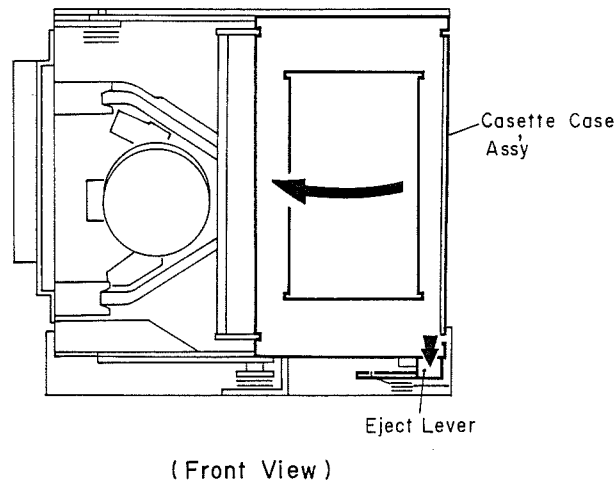

Fig. 6.15 Push of Eject Lever
5. Press the Eject Lever of the Transport Mechanism Ass'y to open the Cassette Case Ass'y manually. See Fig. 6.15.
1. With the same condition as in 6.3.1 (power OFF, vertical placing of the N-1000), press the Eject Lever to open the Cassette Case Ass'y manually. (See Fig. 6.15.)